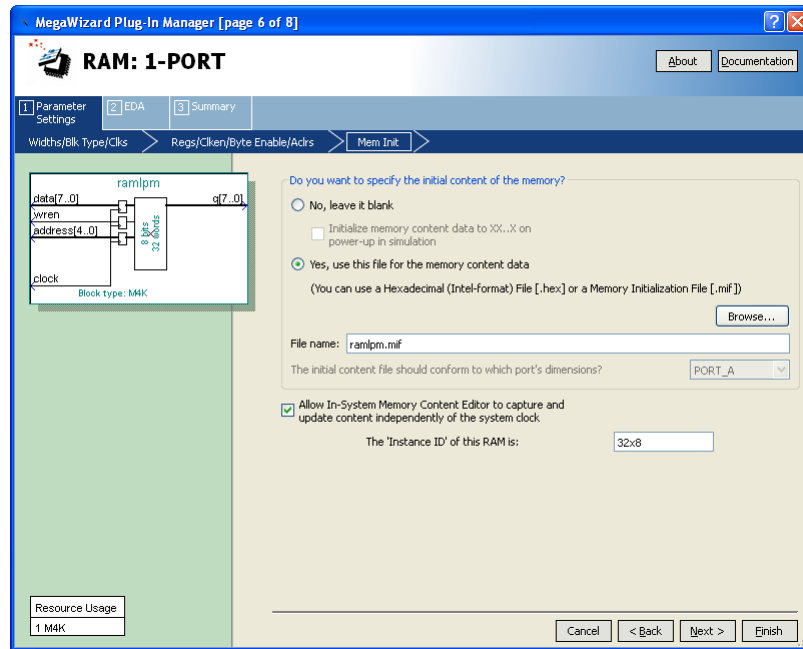

Figure 6: Configuring *RAM: 1-PORT* for use with the In-System Memory Content Editor.
1. Create a new Quartus II project for your circuit, and use the MegaWizard Plug-in Manager to again create a *RAM: 1-PORT* LPM. For Pages 3 to 5 of the Wizard use the same settings as in Part I. On Page 6, shown in Figure 6, specify the *ramlpm.mif* file as you did in Part V, but also make the setting *Allow In-System Memory Content Editor* to capture and update content independently of the system clock. This option allows you to use a feature of the Quartus II CAD system called the In-System Memory Content Editor to view and manipulate the contents of the created RAM module. When using this tool you can optionally specify a four-character 'Instance ID' that serves as a name for the memory; in Figure 6 we gave the RAM module the name 32x8. Complete the final steps in the Wizard.